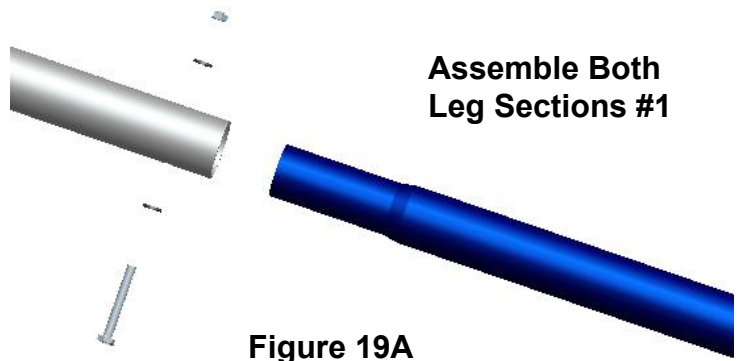

Figure 19A
Locate two Leg Sections #1 (#11). Install two Leg Sections #1 (#11) onto the Middle Leg Sections #2 (#11) using two (2) M6x50 Bolts, four (4) Steel Washers and two (2) Locknuts as shown in Figure 19A.